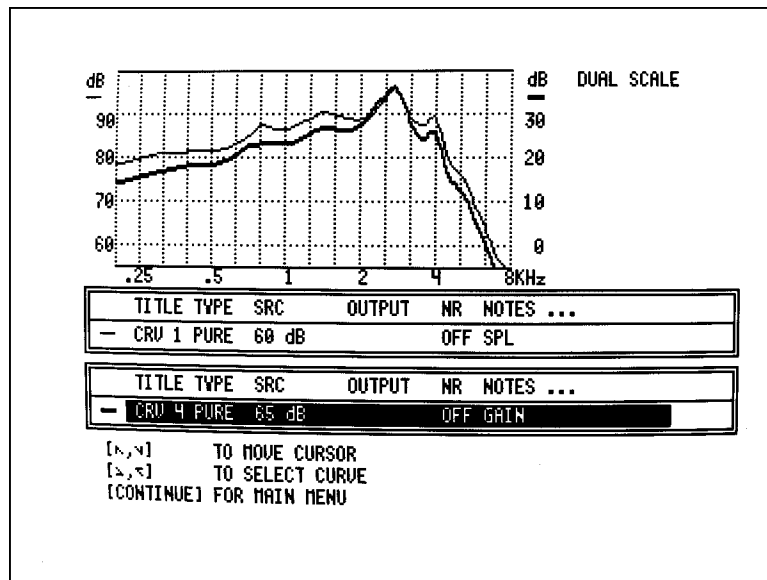

Figure 7.12.6—Dual scale display
2. Press [START] to run Dual Scale. See Figure 7.12.6.